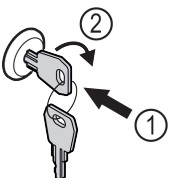

Fig. 145 Example illustration
- ▶ Insert key Fig. 145 (1).
- ▶ Turn key clockwise by 90° Fig. 145 (2).